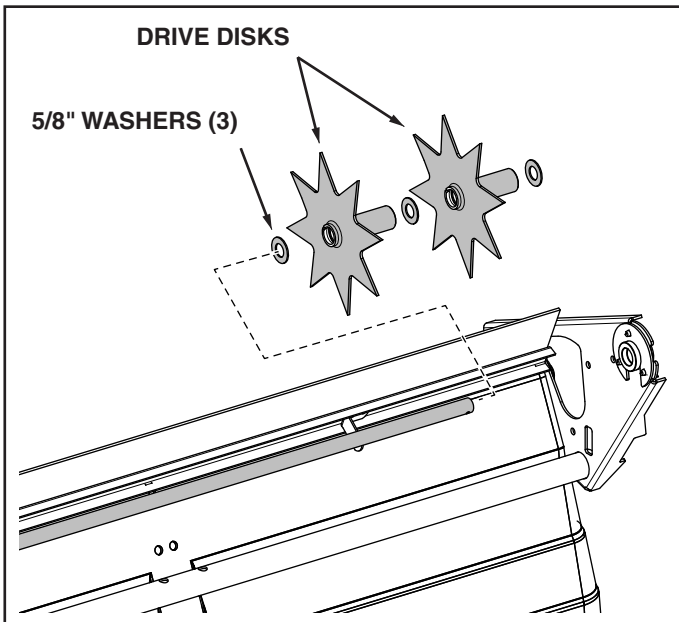

FIGURE 6
7. Assemble three 5/8" washers and the two drive disks (facing as shown) onto the axle. See figure 6.